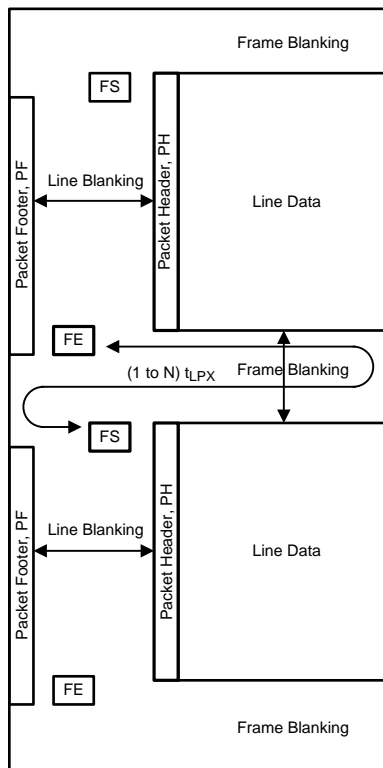

Figure 11. General Frame Format
(1) Default Setting is EQ = Off
The DS90UR910-Q1 (in default mode) takes the RGB data bits R[7:0], G[7:0] and B[7:0] defined in the 24-bit serializer pinout and directly maps to the RGB888 color space in the data frame. The DS90UR910-Q1 follows the general frame format (see Figure 11). Upon the end of the vertical sync pulse (VS), the DS90UR910-Q1 generates the frame end and frame start synchronization packets within the vertical blanking period. The timing of the frame start does not reflect the timing of the VS signal.